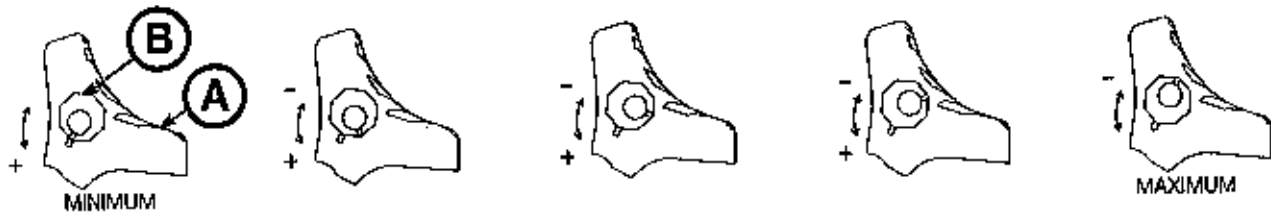

Figure 50: Wheel Locking Force Adjustment
1. Using the 5/32" hex wrench and 7/16" combination wrench or socket, remove the socket screw from the center of the lock pedal. The wheel lock is initially assembled with the pedal set at the minimum locking force. The marker on the pedal (A) is aligned with the marker on the octagonal sleeve (B) (Figure 50).
2. Remove the sleeve (B). Rotate the sleeve counterclockwise to increase the pedal locking force and clockwise to decrease the locking force. Insert the sleeve into the pedal (Figure 50).